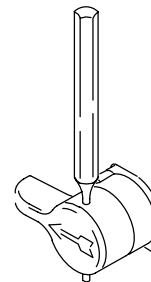

Fig. 6
9. Fig. 6. Install knob (A) over base (C).
- Insert end of pin punch through hole in knob (A), to make sure knob and valve stem are properly aligned.